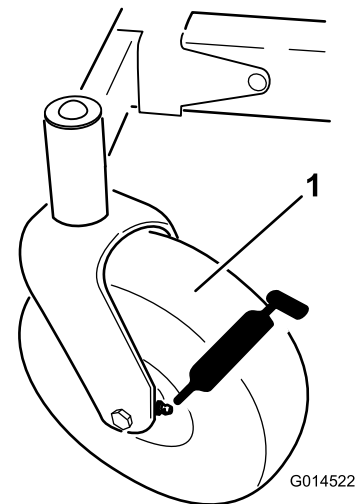
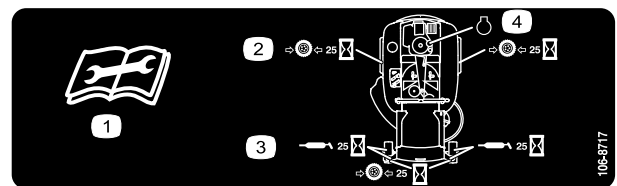

Figure 26
Figure 27
3. Clean the grease fittings (Figure 26 and Figure 27) with a rag. Make sure to scrape any paint off of the front of the fitting(s).